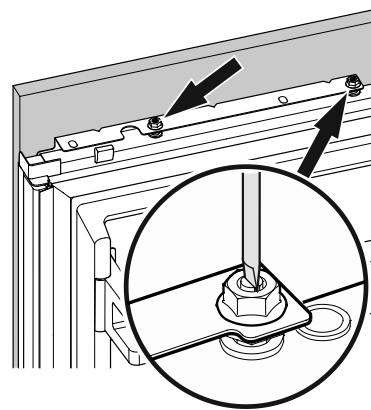

Figure 25
4. Align the panel in its vertical position if necessary. Loosen the hex nuts and turn the adjusting bolts using a screwdriver for slotted screws (**Figure 25**).